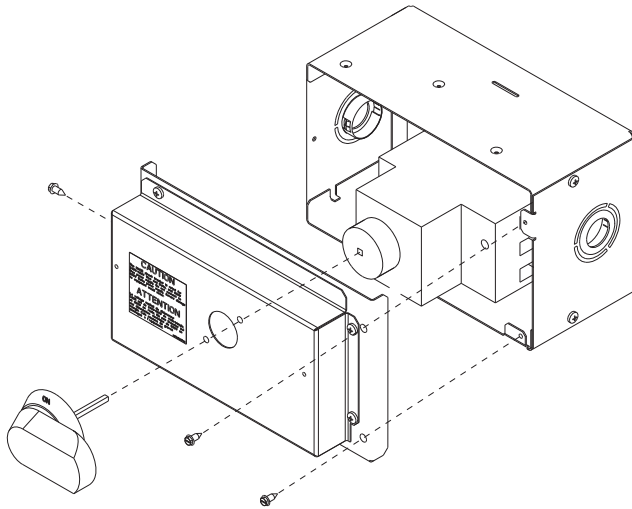

Fig. 29 — Handle and Shaft Assembly for HACR Circuit Breaker
2. Remove (3) hex screws on the HACR enclosure - (2) on the face of the cover and (1) on the left side cover. See Fig. 29.
9. Secure the handle to the painted cover with (2) screws and lock washers supplied.
10. Engaging the shaft into the handle socket, re-install (3) hex screws on the HACR circuit breaker enclosure.